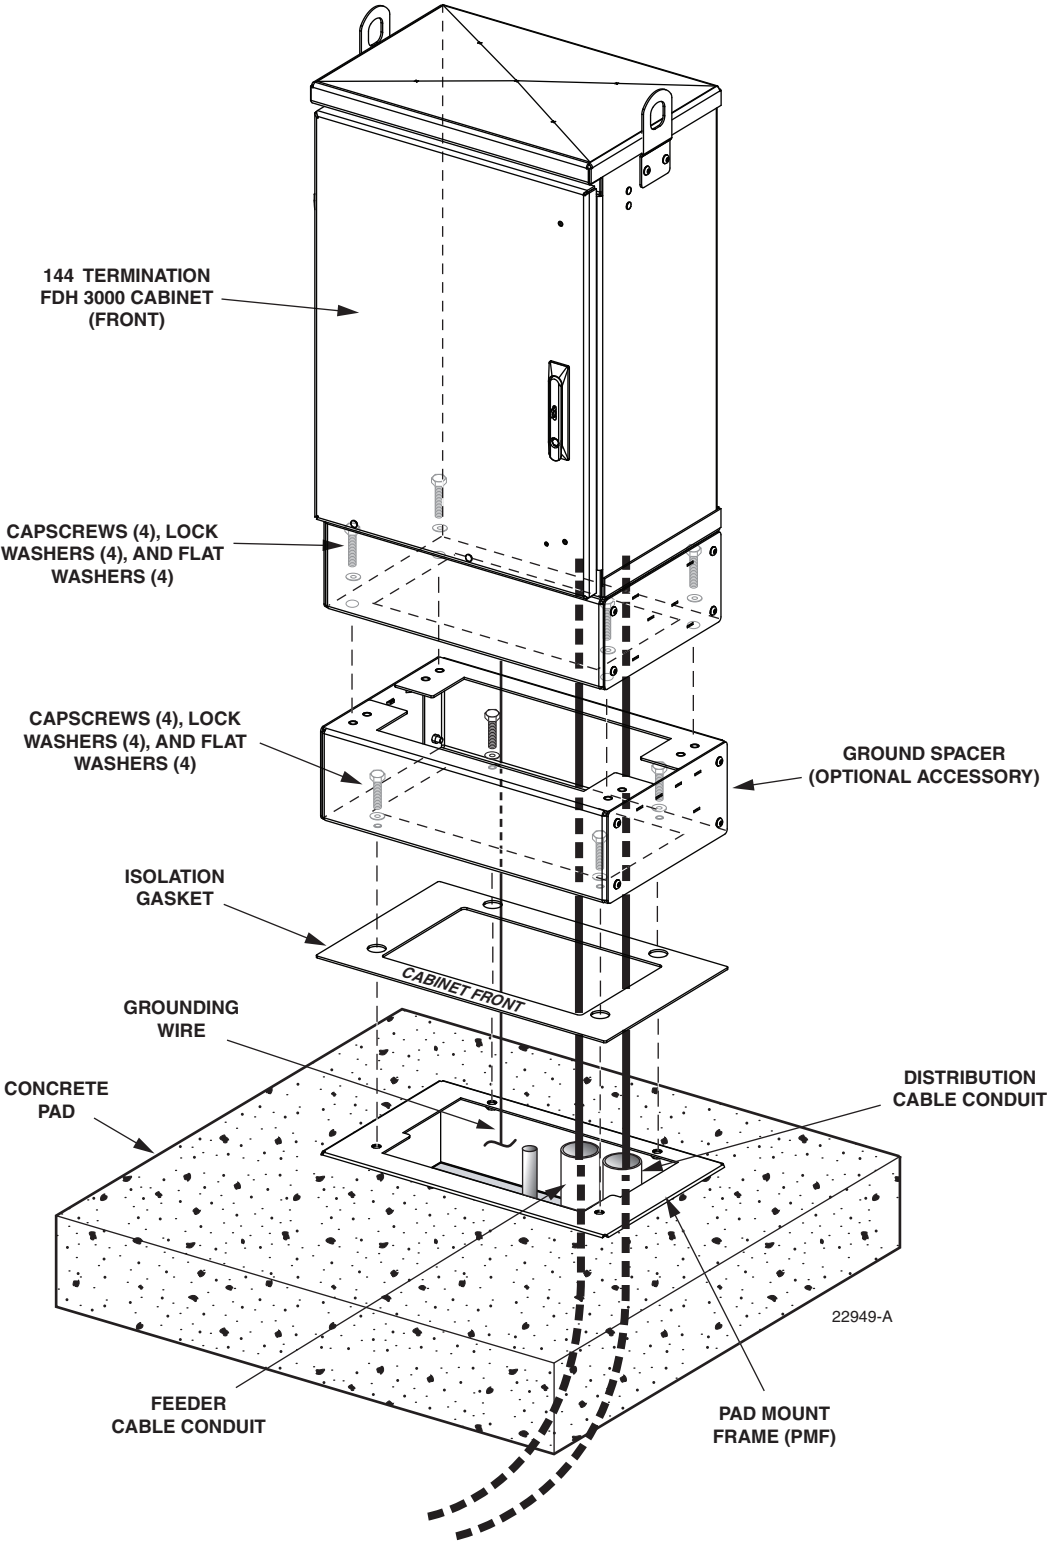

Figure 14. Mounting the 288 Termination Cabinet with Splicing on the Concrete Pad
3. Place the isolation gasket (provided with cabinet) on the PMF and align the holes in the gasket with the holes in the PMF. Make sure the wide side of the gasket is on the side of the PMF that corresponds to the front side of the cabinet. Refer to Figure 14.